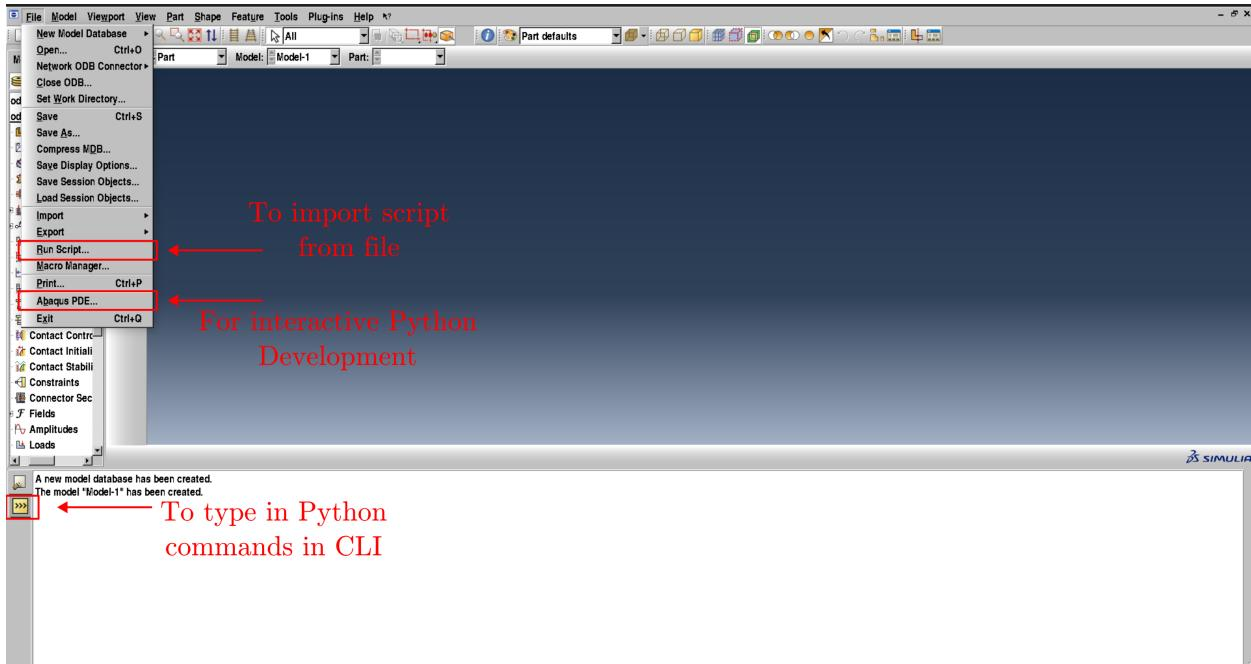

Figure 2: Options in ABAQUS for Scripting
- Fig 2 shows a pictorial overview of the different options available in ABAQUS for scripting support. The ABAQUS PDE can be used for ABAQUS python script development.